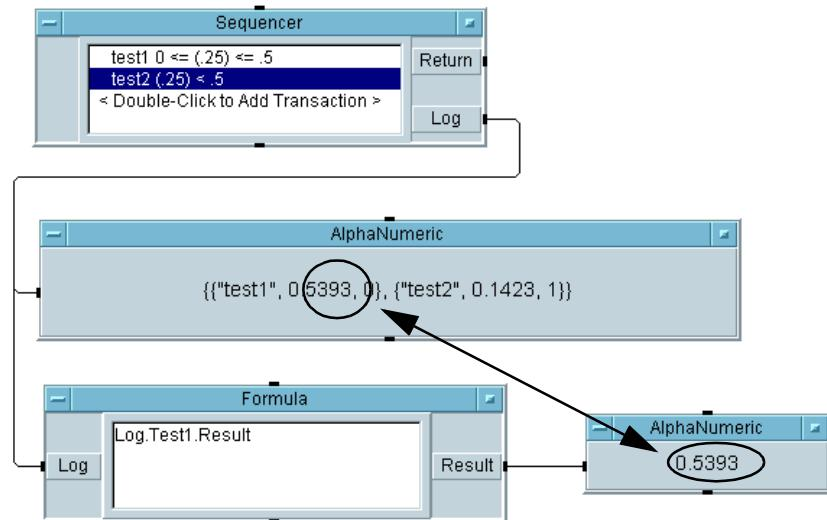

Figure 9-5. Accessing Logged Data
4. Run the program and it should access the Result field in Test1. Save the program as seq2.vee. The program should look like Figure 9-5.